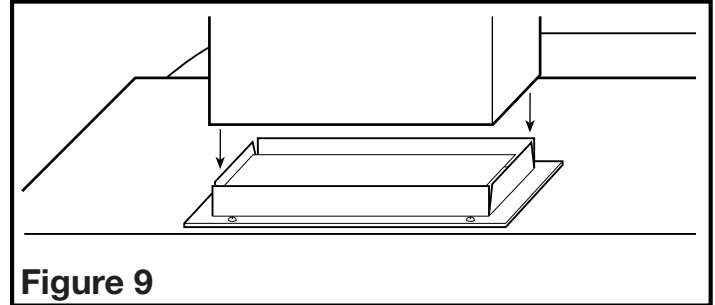

Figure 9
1. Connect the ducting to the hood's duct collar. Ensure duct joints and exterior penetrations are sealed with caulk or other similar material to create an air-tight path to minimize building heat loss or gain and to reduce the potential for condensation. Place/wrap insulation around duct and/or fan in order to minimize possible condensation buildup within the duct, as well as building heat loss or gain (Figure 9).